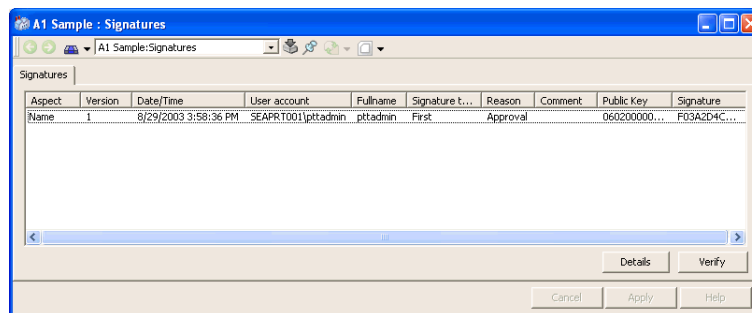

Figure 92. Signatures
4. Click **OK**. This will create a Signatures aspect containing the signature. See Figure 92. An audit trail will also be generated if the audit function is active.
9. If you click on the **Details** button (see Figure 92) a dialog box appears with detailed information about the signature, you also have the possibility to copy information from this dialog box, such as the Public Key and Signature.